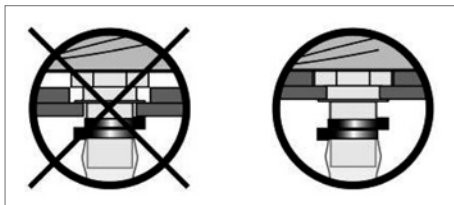

Fig. 10
- Maneuver the bag bottom port so that the groove in the bottom is inserted with the fixed portion of the bottom gate (see Fig. 10).